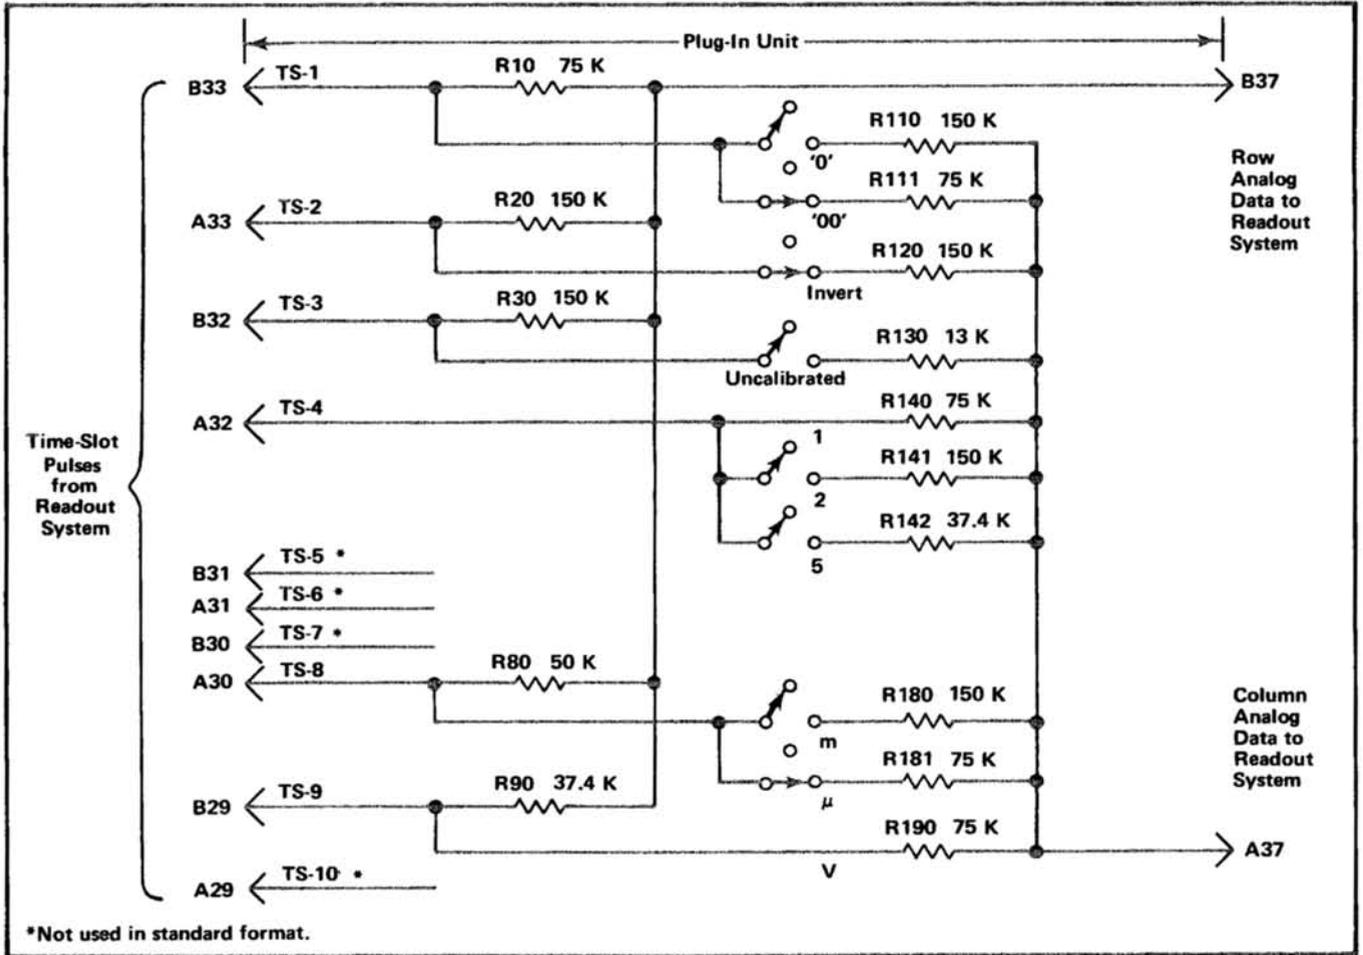
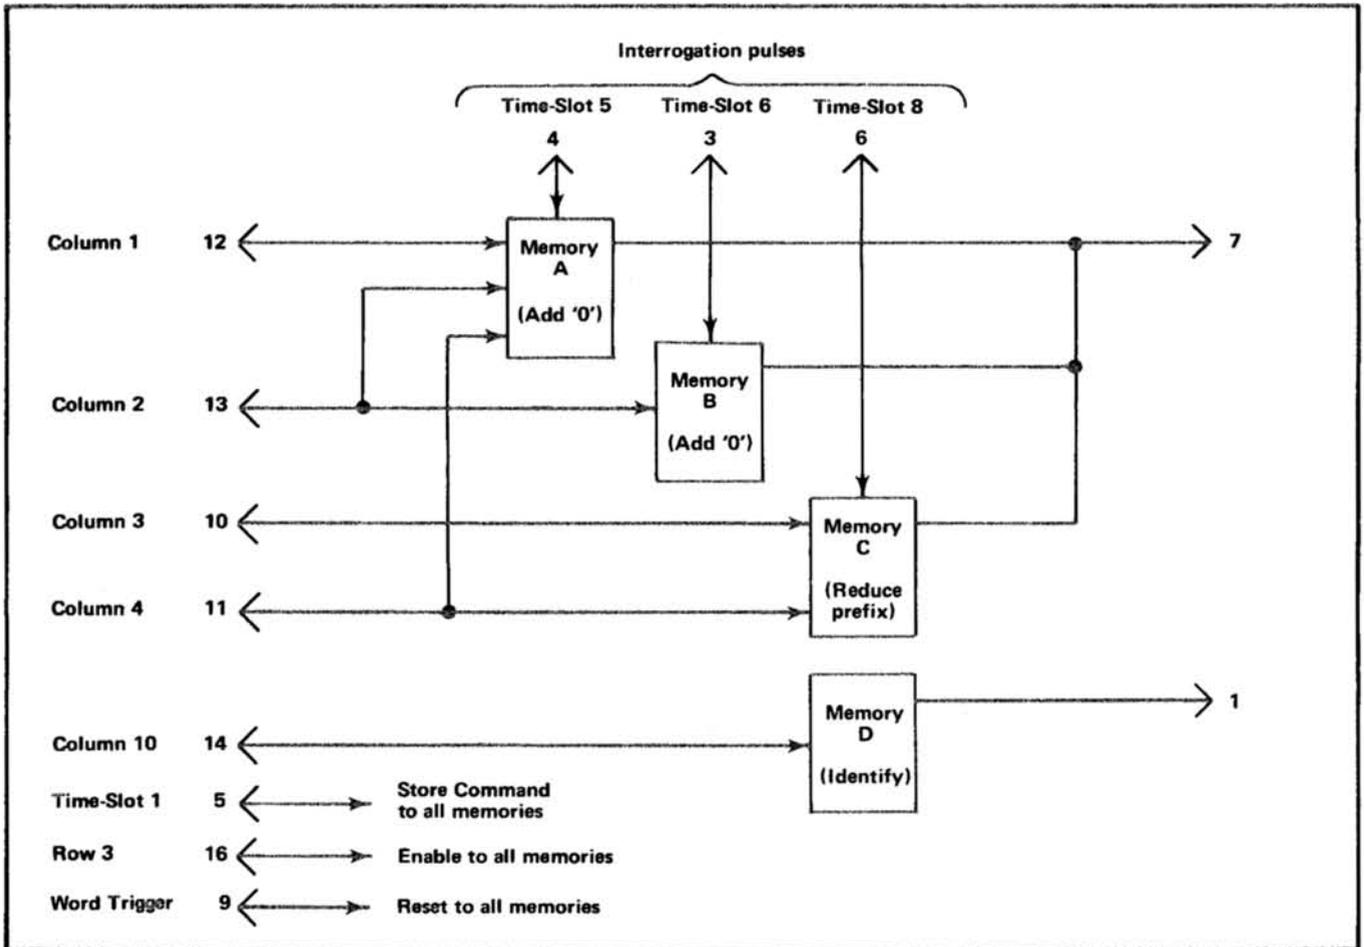
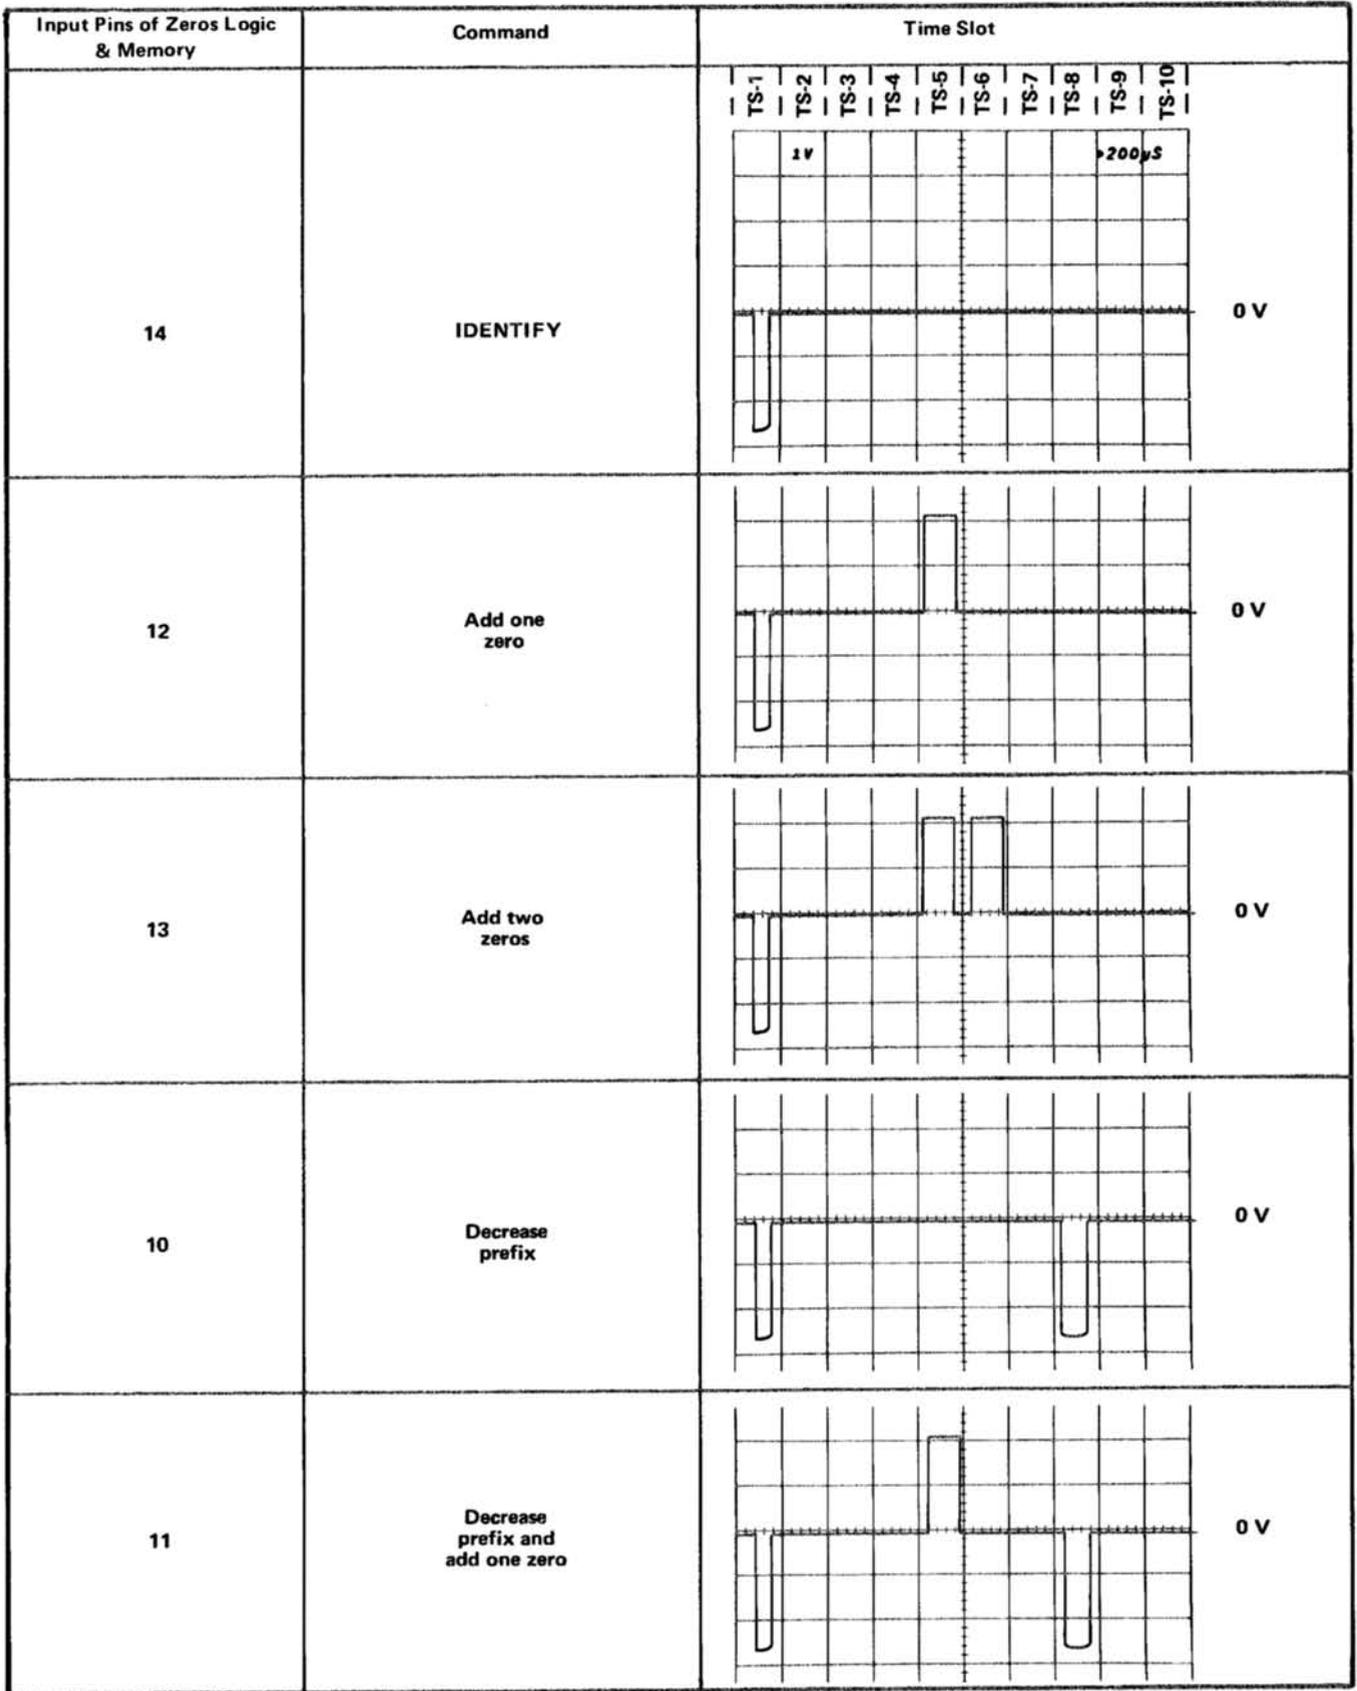

Fig. 3-32. Typical encoding scheme for voltage-sensing amplifier plug-in unit. Coding shown for deflection factor of 100 microvolts.
Fig. 3-34. Block representation of memory sequence in U2232.
Fig. 3-35. Typical output waveforms for Zeros Logic and Memory stage operation (at pin 7 of U2232).
Data is conveyed from the plug-in units to the Readout System in the form of an analog code having up to 11 current levels (from zero to one milliamperere in 100 microampere steps). The characters which can be selected by the encoded data are shown on the Character Selection Matrix (see Fig. 3-25). Each character requires two currents to define it; these currents are identified as the column current and the row current which correspond to the column and row of the matrix. The column and row data is encoded by resistive programming in the plug-in units. Fig. 3-32 shows a typical encoding scheme for a voltage-sensing amplifier plug-in unit. Notice that the 10 time-slot (TS) pulses produced by the Time-Slot Counter stage are connected to the plug-in unit. However, time-slots 5, 6, 7, and 10 are not used by the plug-in unit to encode data when using the Standard Readout Format (see Table 3-2 for Standard Readout Format). The amplitude of the time-slot pulses is exactly  $-15$  volts as determined by the Timer stage. Therefore, the resultant output current from the plug-in units can be accurately controlled by the programming resistors in the plug-in units.
For example, in Fig. 3-32, resistors R10 through R90 control the row analog data which is connected back to the Readout System. These resistors are of fixed value and define the format in which the information will be presented by the Readout System. Fig. 3-33A shows an idealized output current waveform of row analog data which results from the 10 time-slot pulses. Each of the steps of current shown in these waveforms corresponds to 100 microamperes of current. The row numbers on the left-hand side of the waveform correspond to the rows in the Character Selection Matrix shown in Fig. 3-35. The row analog data is connected back to the Readout System via terminal B37 of the plug-in interface.
The Column analog data is defined by resistors R110 through R190. The program resistors are connected to the time-slot lines by switch closures to encode the desired data. The data as encoded by the circuit shown in Fig. 3-32 indicates a 100 microvolt sensitivity with the display inverted and calibrated vertical deflection factors. This results in the idealized output current waveforms shown in Fig. 3-33B in the column analog data output, terminal A37 of the plug-in interface. Resistor R111, connected between time-slot 1 and the column analog data output, encodes two units of current during time-slot 1. Referring to the
connectors of vertical plug-in units. A special coding ring around the input connector of the plug-in unit senses the attenuation ratio of the probe (with readout-coded probes only). The probe contains a resistor which results in additional column current. For example, if a 10X attenuator probe is connected to a plug-in with the coding for 100 microvolts as shown in Fig. 3-32, an additional unit of current is added to the column analog data during time-slot 1. Since two units of current were encoded by R111 (see Fig. 3-32), this additional current results in a total of three units of column analog current during this time-slot. Referring to the Character Selection Matrix, three units of column current along with the two units of row current encoded by R10 indicates that the prefix should be reduced. Since this instruction occurs in the same time-slot which previously indicated that two zeros should be added to the display and only one instruction can be encoded during a time-slot, the zeros do not appear in the display. The CRT readout will now be changed to 1 mV (readout) program produced by plug-in same as for previous example.
The Zeros Logic and Memory stage U2232 stores data encoded by the plug-in units to provide zeros-adding and prefix-shifting logic for the Readout System. The Strobe pulse at pin 15 goes positive when the data has stabilized and can be inspected. This activates the Zeros Logic and Memory stage so it can store the encoded data. A block representation of the memory sequence is shown in Fig. 3-34. Typical output waveforms for the five possible input conditions that can occur are shown in Fig. 3-35. When time-slot 1 occurs, a store command is given to all of the